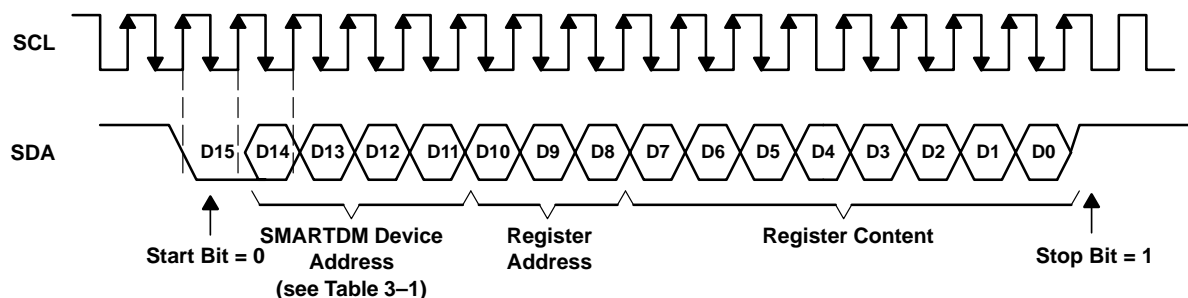

Figure 3–5. S²C Programming
2. Write data to program control register as specified in Figure 3–5 with bits D14–D11 = XXXX (don't care).